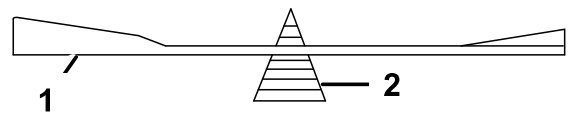

Figure 70
2. Check the balance of the blade by putting it on a blade balancer (Figure 70).